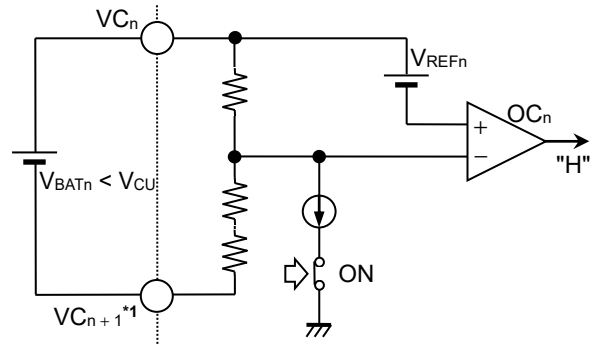

Figure 19 When Self-test Is Performed (RSTB = "H", CLK = "H_{2n-1}")
- 3rd to 12th clocks : Performs overcharge comparator n (OCn) diagnostics at the 2n – 1th clock signal among the clock signals input to the CLK pin (Refer to **Figure 19**)
Performs overcharge detection diagnostics at the 2n – 1th clock signal among the clock signals input to the CLK pin. OUT1 pin and OUT2 pin outputs are in the overcharge detection status when the clock signal is "H" regardless of whether the detection signal type is "common" or "separate" (Refer to **Figure 19**).